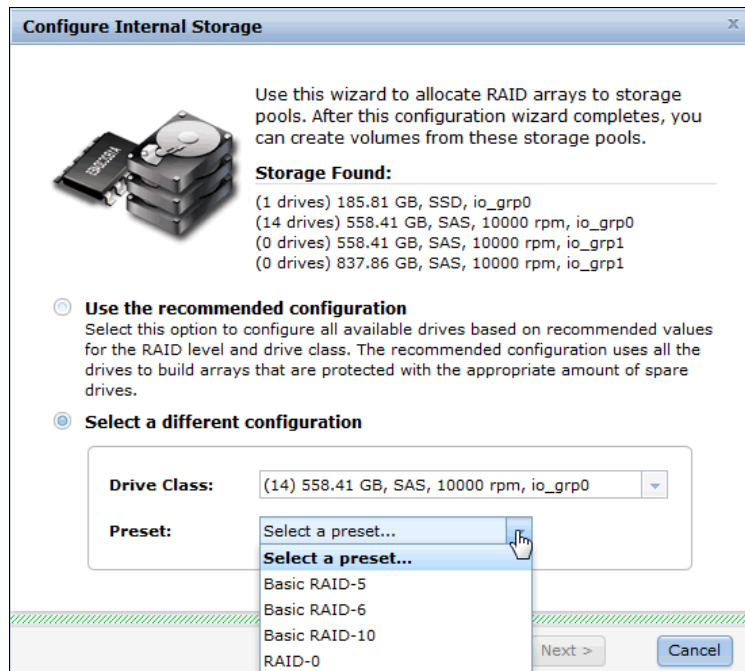

Figure 7-29 Select the RAID preset
- Click **Next** and select the appropriated RAID preset, as shown in Figure 7-29.